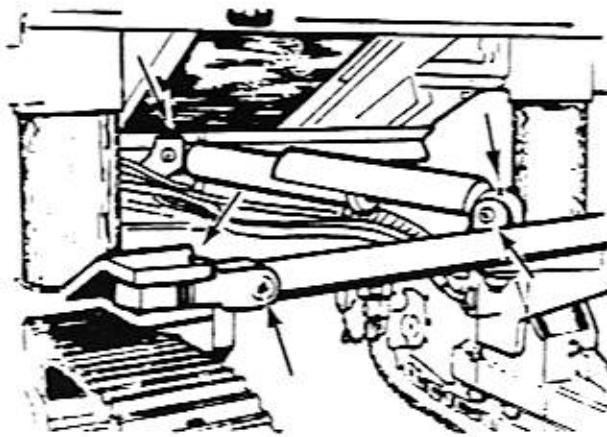

Figure 9-3
Located under the front of the machine are the steering pin fittings. There are fittings at each end of the steer cylinder and fittings at each end of the steer cross-link. Lubricate each fitting with two (2) shots of MPG-EP grease. See Figure 9-3.